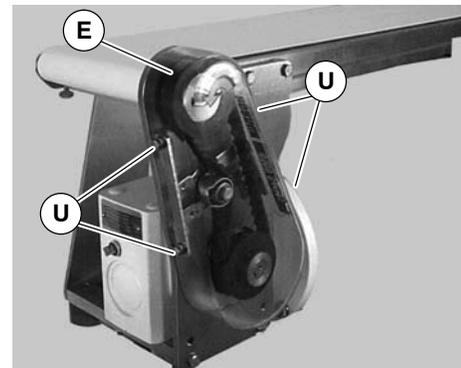

Figure 9
7. Attach cover (E of Figure 9) with screws (U). Tighten screws to 35 in-lb (4 Nm).